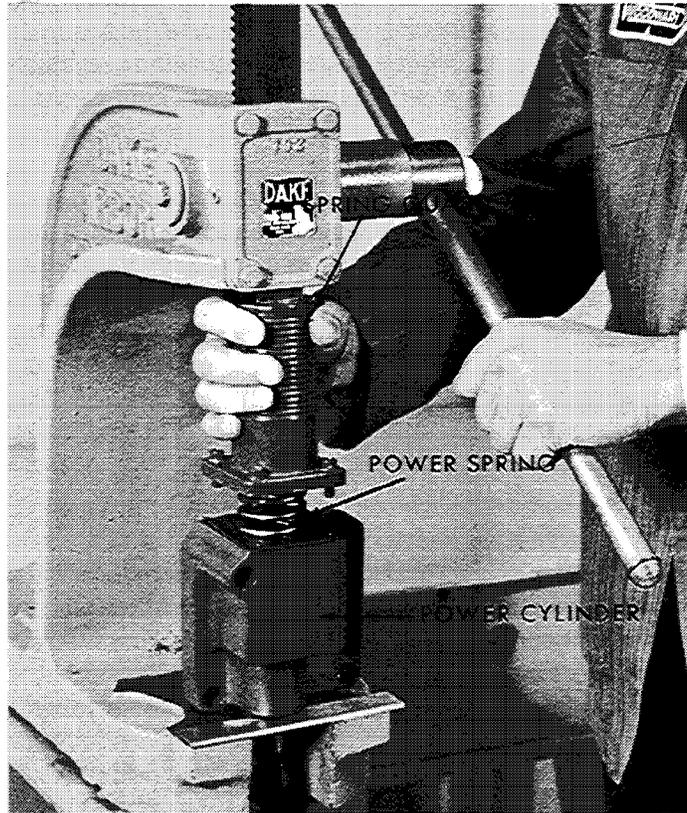

Figure 3-1
1. Remove speeder spring (62).
2. Lift out the flyweight head-pilot valve bushing assembly. (items 63 through 101). After detaching the flyweight head (item 93), take out snap ring (81) to permit removal of items (82) and (85).
3. Remove snap ring (60) and items (55) through (59).
4. Remove four screws (8) and lockwashers (9) to detach the power cylinder assembly (items 5 through 22).
- a. To remove spring guard (20), position the power cylinder assembly in an arbor press as shown in Figure 3-1. Use the arbor press to hold the spring guard down against the force of power spring (17) while removing screws (22) and washers (21).